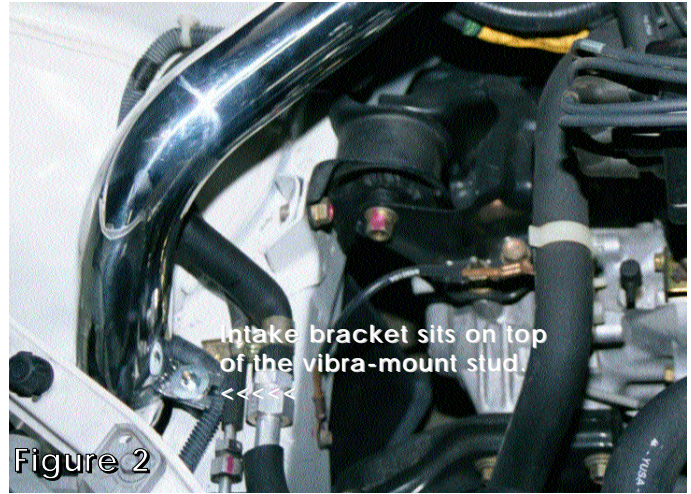

Figure 2
- 4 Remove the PCV pipe and line# 2. Line# 1 will bypass the PCV pipe and connect directly into the intake manifold port. Use the stock clamps to secure the line. See fig. 2